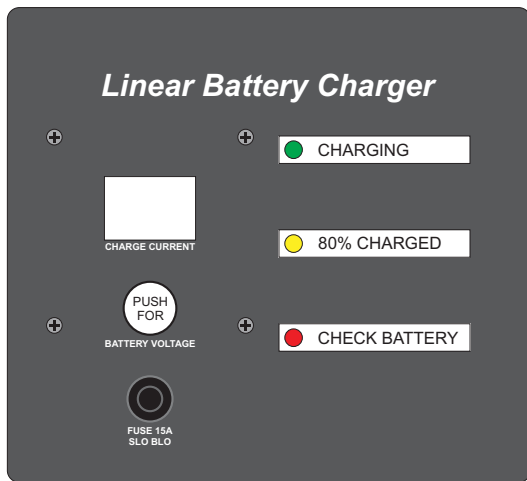

Figure 3-5. Battery Charger Faceplate
- ❑ Plug the extension cord into a grounded 120 VAC outlet. Verify that the green CHARGING indicator LED is lit on the battery charger faceplate (Figure 3-5).